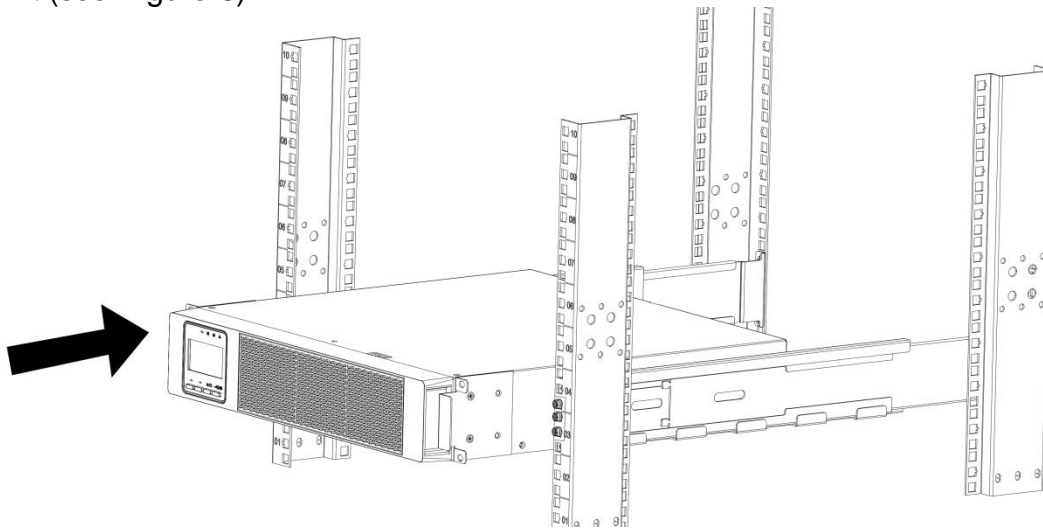

Figure 8: Slide UPS into the Rack
15. After installing the mounting brackets onto the UPS, slide the UPS into the rack on the rail kit (see Figure 8).